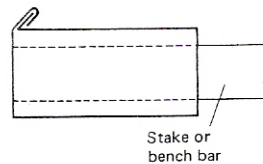

Figure 18 - Forming Analysis 1
1. After forming the paned-down joint, place the container over a suitable stake with the inside edge firmly against the end of the stake and with a mallet, bend the seam over gradually to approximately 45° (Figure 18),